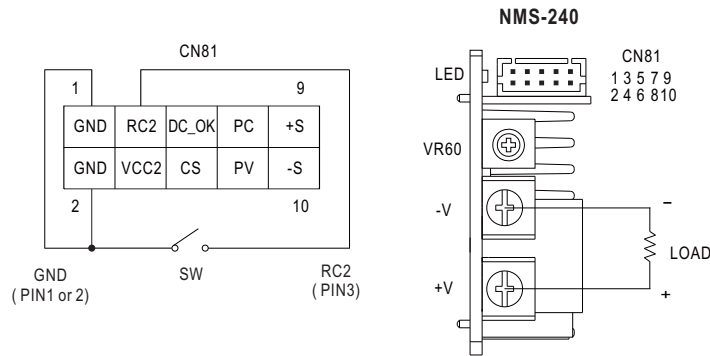

Figure 5-5
- ◎ Figure 5-5 shows RC2 (CN81 PIN3) and GND (CN81 PIN1 or 2) connection diagram.